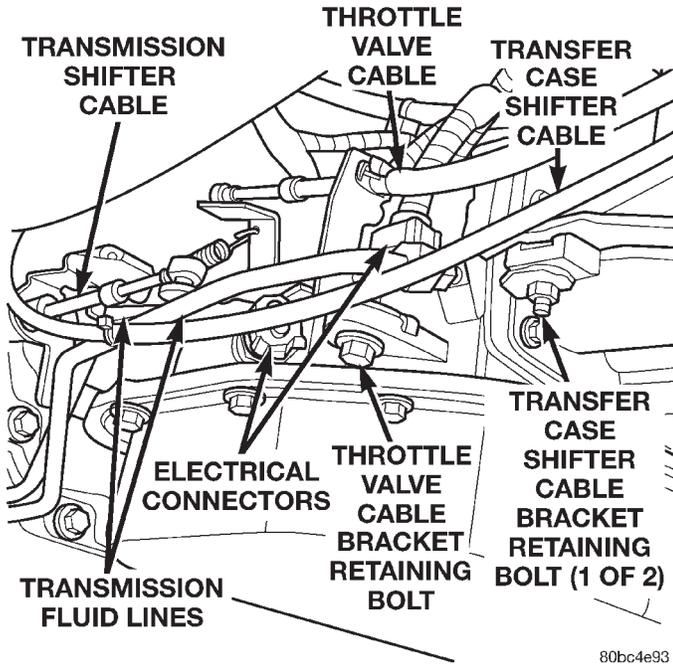

Fig. 272 Throttle Valve Cable at Transmission
- (3) Raise the vehicle on a hoist and verify that the transmission throttle valve control lever is at the idle position (Fig. 272). This position can be verified by observing the throttle valve lever tension spring. Control lever should be at its stop in the direction being pulled by the tension spring.